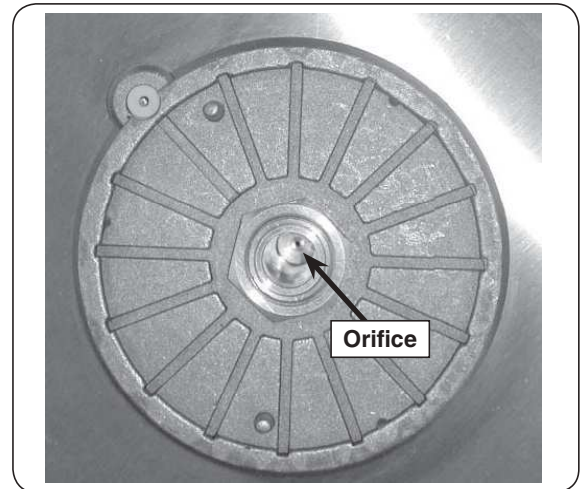

Fig. 11-1 Burner - top view
- c. Using a $\frac{3}{8}$ " socket, remove the orifice (see Fig. 11-1) and check the number stamped on the orifice face.